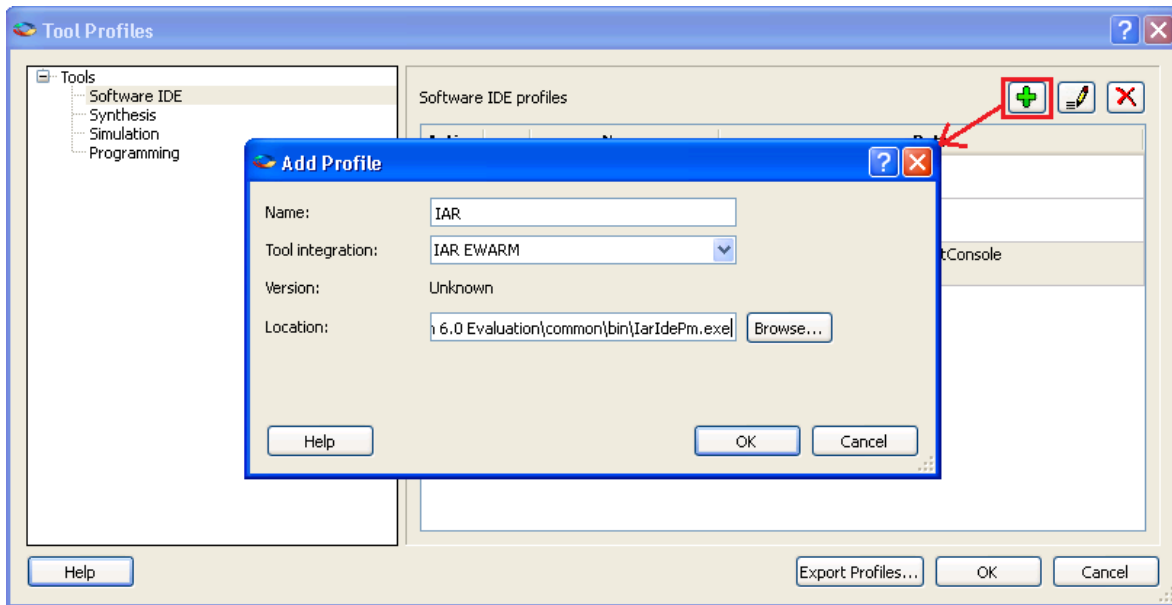

Figure 3 · Selecting IAR as Software IDE
- Click **Edit Tool Profiles** and add IAR by clicking **Software IDE**, as shown in Figure 3 .